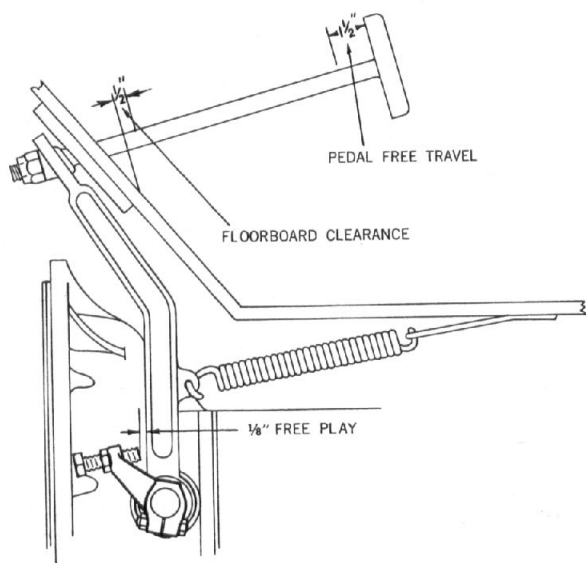

Fig. 38 - Adjusting Clutch Pedal Linkage.
(3) The proper clutch pedal "free travel" is approximately  $1\frac{1}{2}$ ". The gradual reduction from this amount is a normal condition caused by facing wear.
(4) If inspection indicates clutch pedal "free travel" is less than  $\frac{1}{2}$ ", immediate adjustment of the release sleeve should be made to restore the proper  $1\frac{1}{2}$ ", "free travel," see Fig. 38. This  $1\frac{1}{2}$ " of "free travel" normally results in  $\frac{1}{8}$ " clearance between the release yoke and the bearing carrier wear pads or at the cross shaft adjustment.